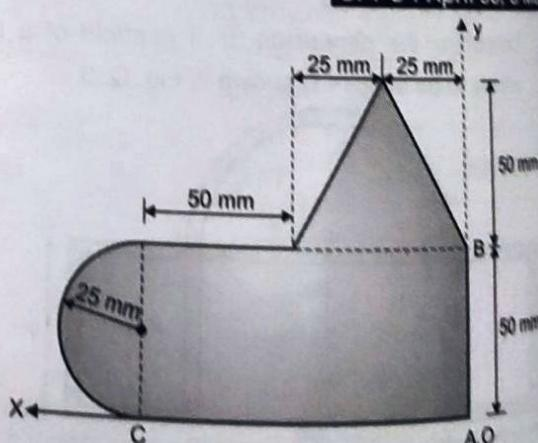

Fig. Q. 12
- Q. 12** Find the centre of gravity of the plane, uniform lamina shown in Fig. Q. 12 w.r.t AB and AC.